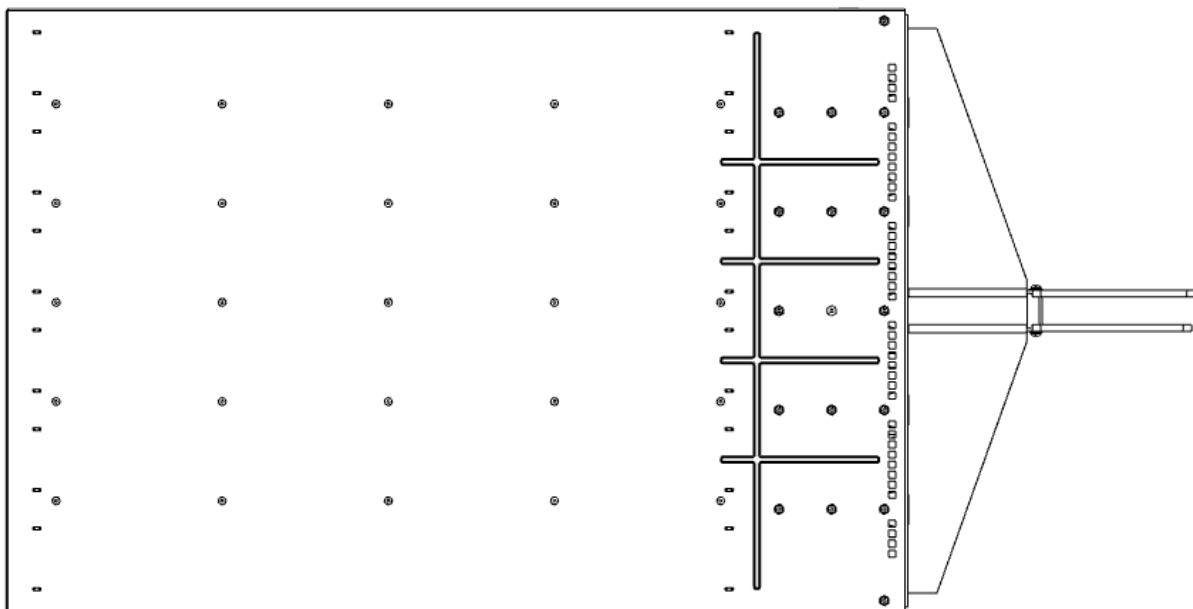

Figure 5. SPSPFE3-04G Top View
3) Reduced the number of holes on Top Cover near output bus bar (see figure 5 and 8).
2) Added chamfer and plastic spacer on output bus bar for improve alignment (see figure 5).